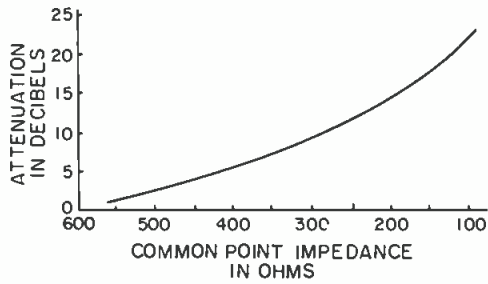

Figure 2. The graph for determining the common-point impedance.
Next we have a graph which was calculated for a 600-ohm circuit, but using arithmetic you can convert it to any other impedance. FIGURE 2 shows the graph. One coordinate (Y) is calibrated in decibels of loss or attenuation. The other (X) is representing the values of common-point impedance. Common-point impedance is a resistance measured in the pad shown in FIGURE 1 (A) across the resistor R2. This reading of common-point resistance combines not only the resistance of R2 but also the effects of all other impedances such as